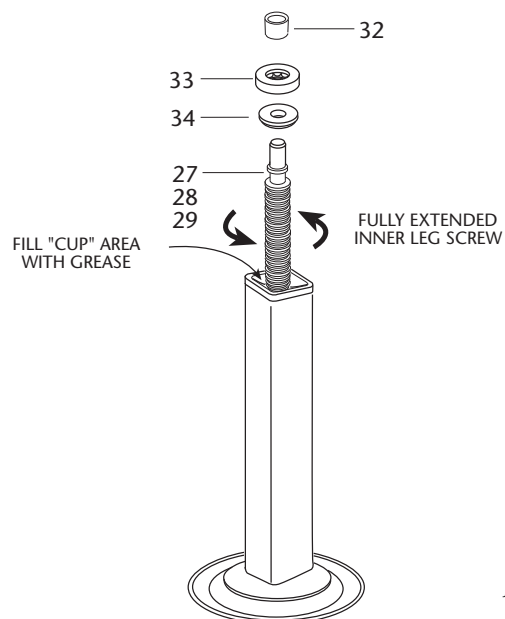

Figure 8
3. Rotate the lift screw counter-clockwise until it is fully extended, then fill the "cup" area of the lift nut with grease as shown in *Figure 8*.